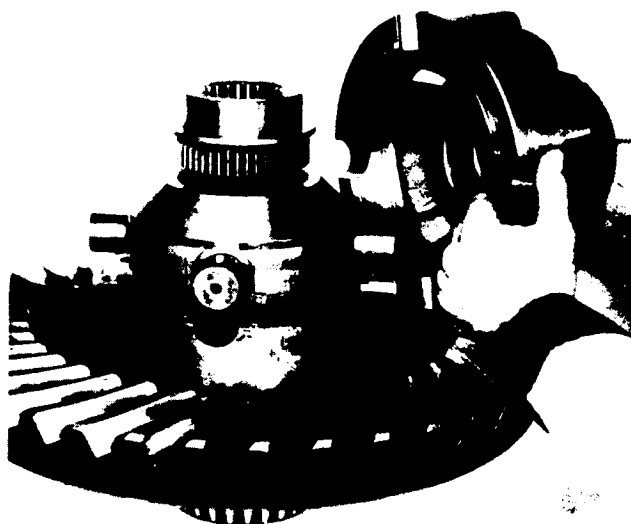

FIG. 116
10. Position case half on differential (Fig. 116). Manually press on case half to compress springs to assure that case halves seat fully together. If they do not, splines in the NoSPIN parts are not properly aligned. Align parts and again check to make sure that case halves seat fully.